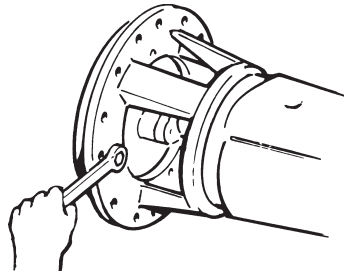
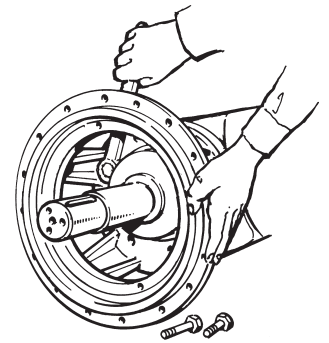

Fig. 6 Bearing Assemblies 5F and 6F Casing cover and lantern are secured together by two screws.
Fig. 7 Bearing Assemblies 5F and 6F Six screws secure the lantern to the bearing bracket.
1. Remove the casing cover, see Fig. 6 and carefully tap off the lantern. See Fig. 7.